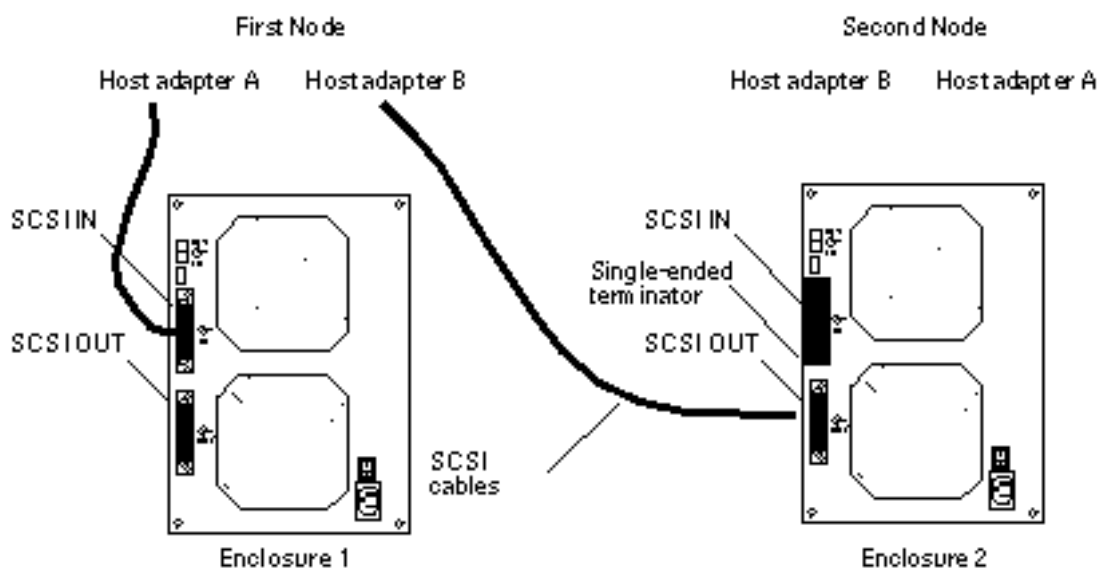

Figure 4-2 Example of a StorEdge MultiPack enclosure mirrored pair
4. Connect the single-ended SCSI cable between the node and the enclosures, as shown in Figure 4-2.
5. Temporarily install a single-ended terminator on the SCSI IN port of the second enclosure, as shown in Figure 4-2.